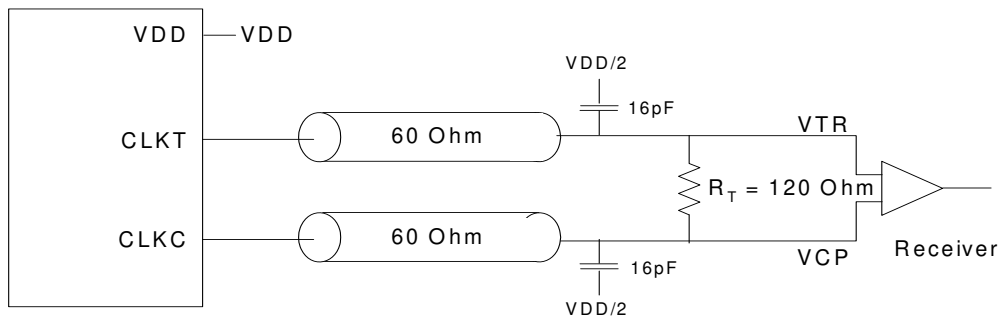

Figure 6. Differential Signal Using Direct Termination Resistor
7. For load conditions see *Figure 6*.
8. The value of V_{OC} is expected to be $|V_{TR} + V_{CP}|/2$. In case of each clock directly terminated by a 120 Ω resistor. See *Figure 6*.
9. All outputs switching loaded with 16 pF in 60 Ω environment. See *Figure 6*.
14. All differential input and output terminals are terminated with 120 Ω /16 pF as shown in *Figure 6*.